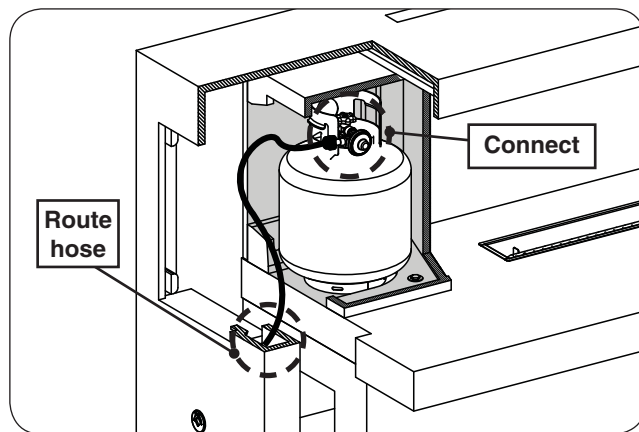

Fig. 17-3 L.P. Cylinder placement
3. The propane cylinder (not included) is to be located inside the firebox of the unit (see Fig. 17-3). The access door must be removed to place the cylinder. (Replace once done.)
- Connect the flex connector to the shut-off valve (see Fig. 17-3). Tighten securely.
- Install the supplied flare adapter to the gas supply using a pipe joint compound resistant to all gasses (see Fig. 17-3). Tighten securely.
- Connect the flex connector to the flare adapter (see Fig. 17-3). Tighten securely.